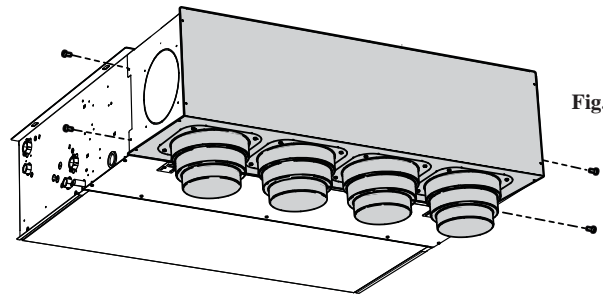

Fig.12
- Install the two fixing brackets in the appropriate side slots and fasten them using the two screws provided (fig.12)